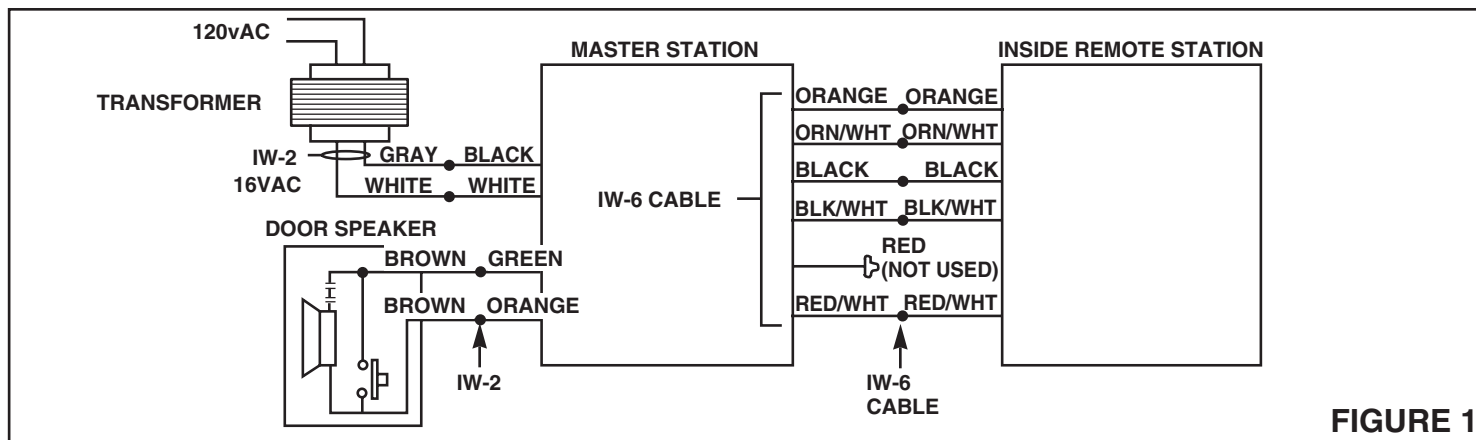

FIGURE 1
3. **Refer to Figure 1.** Connect NuTone IW-2 (22 gauge, two-conductor, twisted-pair, 100 ft max.) between the transformer's secondary terminals and a BLACK and WHITE wire at the Master Speaker.
1. **Refer to Figure 1.** Run IW-2 cable (300 ft max.) between the Door Speaker location and the Master Speaker location.
2. **Refer to Figure 1.** Connect the IW-6 color-coded wires to matching color-coded wires at both the Master Speaker and the Inside Remote Speaker. (i.e., orange to orange; orange/white to orange/white, etc.). **NOTE: If the Door Release option is not used, do not connect the RED wires.** See "Optional Door Release," page 3.